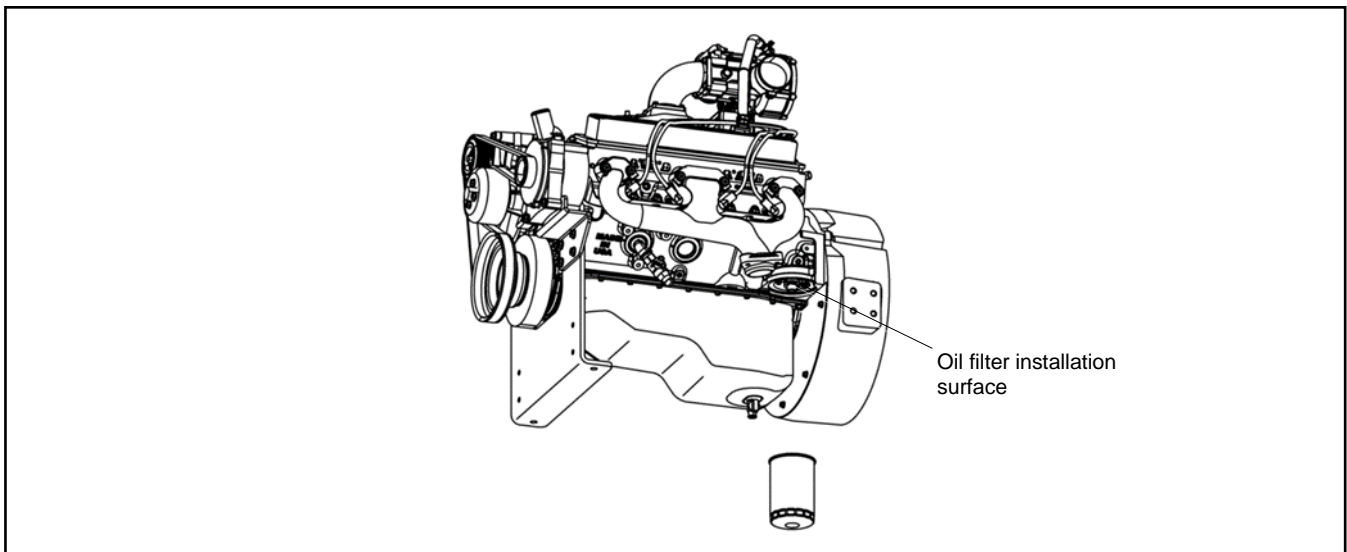

Figure 14 Oil Filter Installation Location
5. Wipe the oil filter installation surface clean with a dry cloth. Inspect the installation surface for damage. See Figure 14.